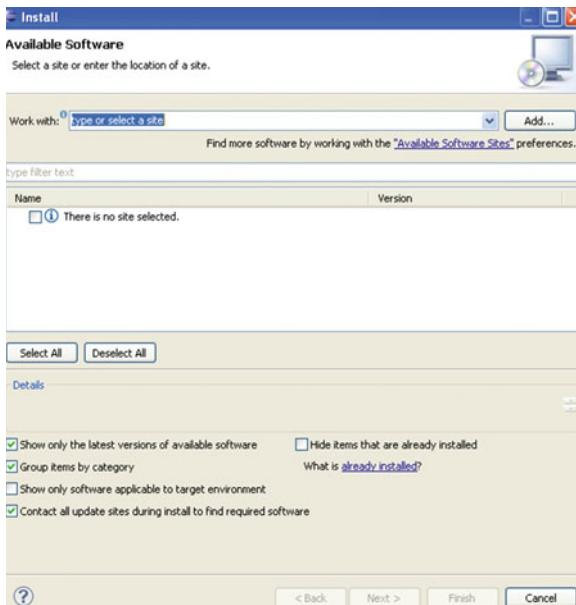

Figure 1-20. Step 1 of installing the leJOS EV3 plug-in
1. In Eclipse, select Help > Install New Software. You will see a dialog requesting that you input a URL, as shown in Figure 1-20.